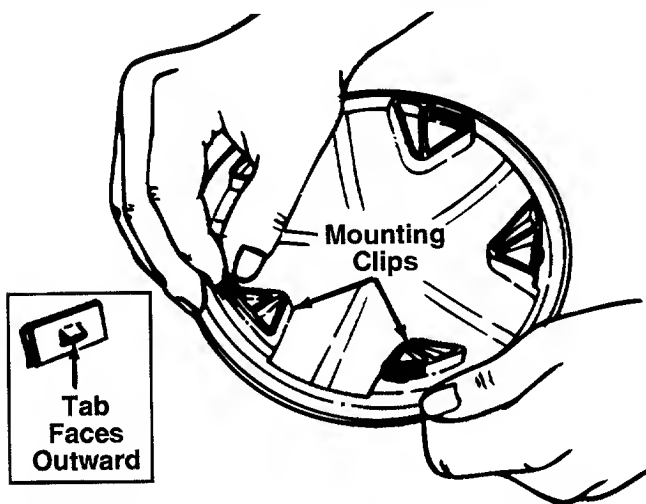

FIGURE 8.
- a. Slide five mounting clips on each hub cap as shown in figure 8, with the tabs on the mounting clips facing outward.